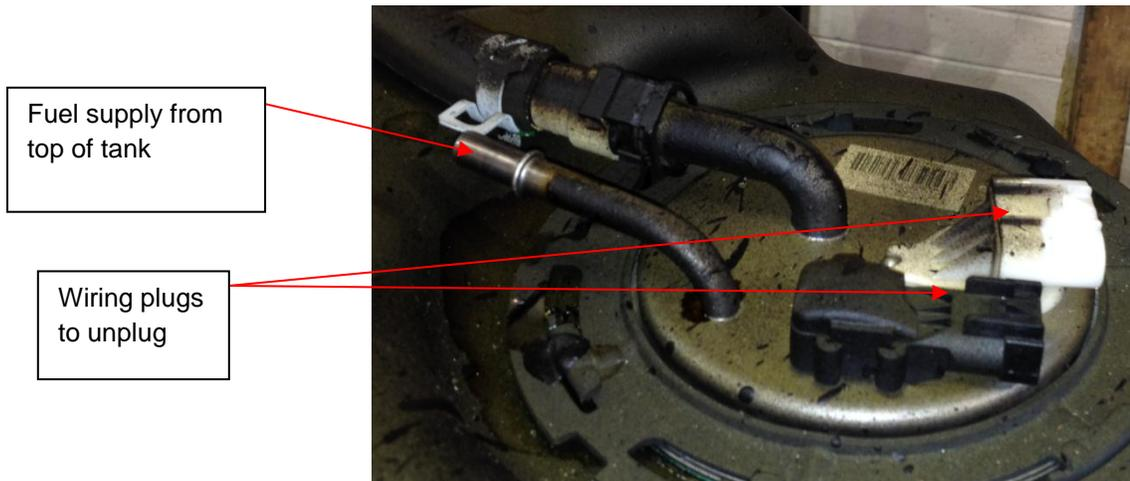

Figure 2
- 7) Place cart under fuel tank to support tank after releasing it. Tank will need to be lowered enough to unplug two electrical plugs on sending unit and a fuel hose in that location, as well as the fuel hose at front of tank. (Figure 2)
- 9) Lower tank down several inches. Unplug two harnesses from fuel sending unit located on top of tank. **(Figure 2)**
- 10) Disconnect fuel line located beside the two plugs. **(Figure 2)**